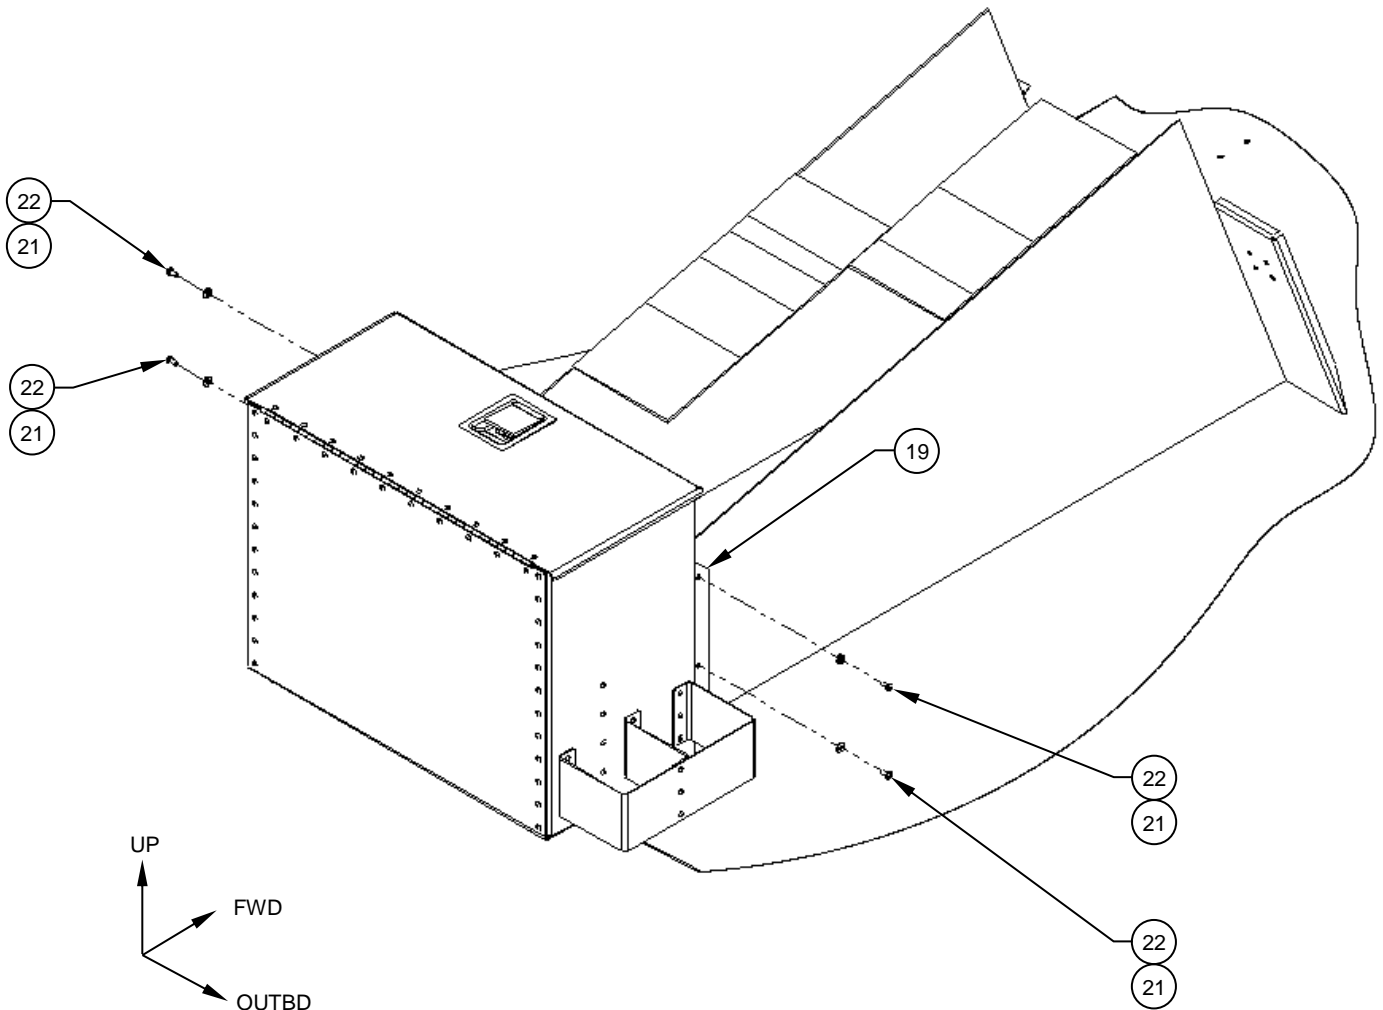

Figure 5
- With the Pedestal Attachment Flange (Item 19) in place, attach the Aft Pedestal Storage Compartment, Assy (Item 1) to the OEM center pedestal. Use back drilled holes in the Aft Pedestal Attachment Flange (Item 19), with associated washers (Item 21) and screws (Item 22). Reference Figure 5.